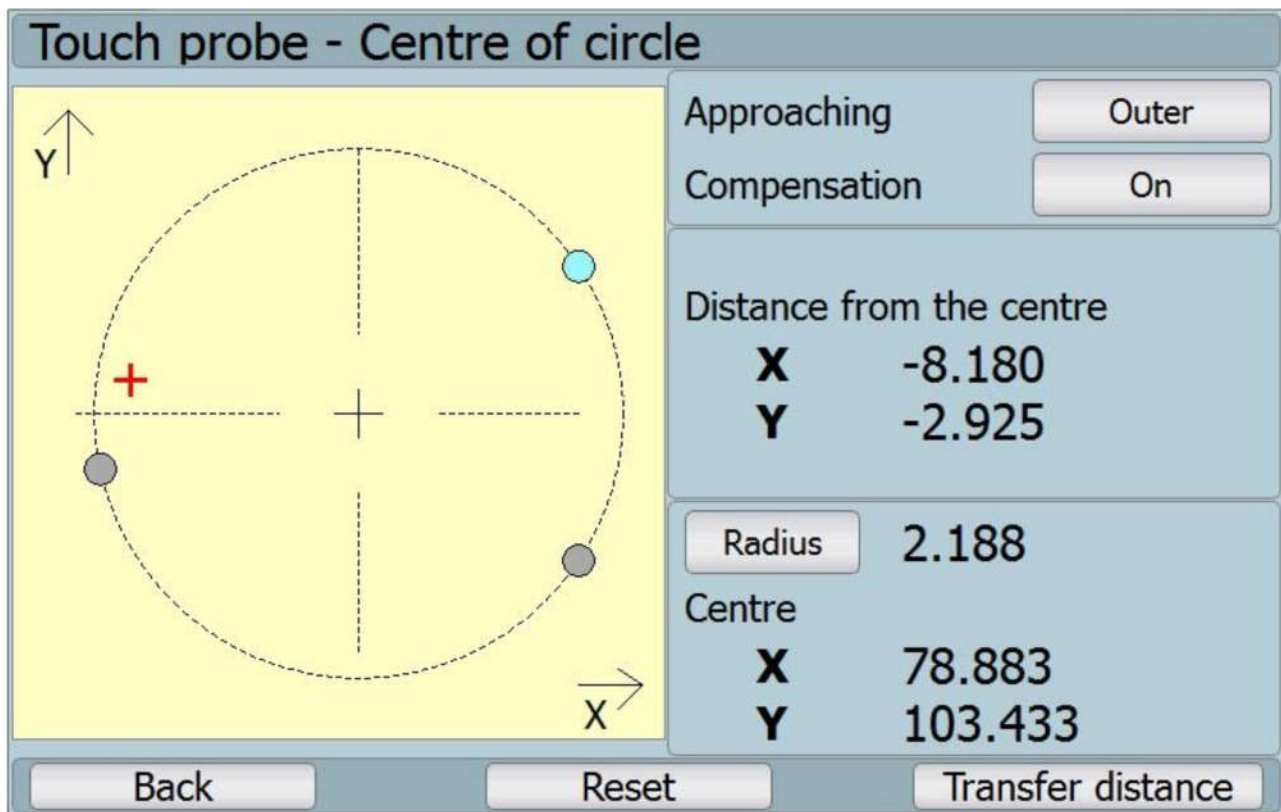

Fig. 47: Touch probe – circle centre – found centre
- ⑩ After reaching the second and third required coordinate with the probe and confirming the coordinates, the found circle is drawn with the centre (see fig. 47: Touch probe – circle centre – found centre).
- ⑩ It displays the radius (diameter) value of circle, the coordinates of the found centre, and it displays data on the circle centre distance from the touch probe coordinates.
- ⑩ The diameter value can be switched with buttons „**Polomer/Prumer**“ (diameter/ radius) for the defined circle.
- ⑩ Button „**Vnejsi/Vnitri**“ (external/ internal) is used for the diameter value treatment according to the way we moved the touch probe on individual circle coordinates. They can be from external or internal side.
- ⑩ Button „**Zapnuto/Vypnuto**“ (on/off) for the compensation edits values of the centre coordinates as per the defined compensation received during the calibration of the touch probe on the circle (see chapter **Chyba! Záložka není definována.**).
- ⑩ Button „**Reset**“ sets everything into the initial setting.
- ⑩ Button „**Preneš střed**“ (transfer centre) transfers the coordinates of the defined axis centre.